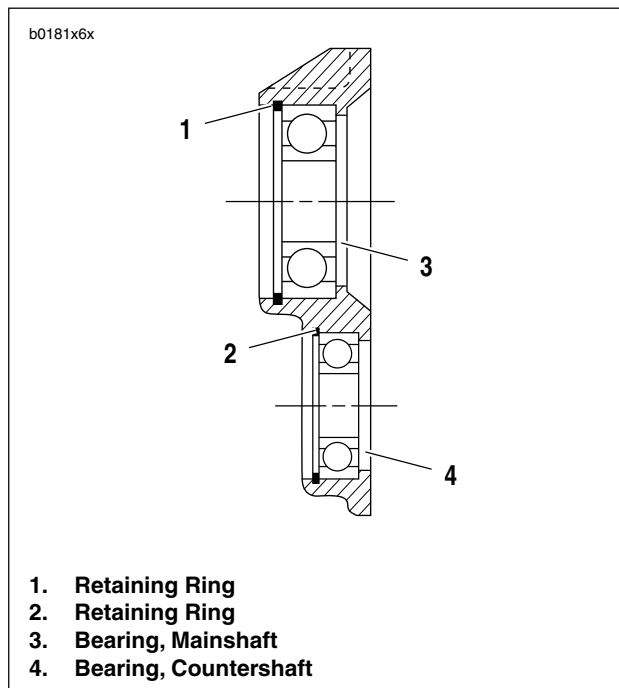

Figure 6-52. Ball Bearing Assembly
5. See Figure 6-52. If bearing replacement is required, remove retaining rings (1, 2). Press out bearings (3, 4) from the inside of the door.